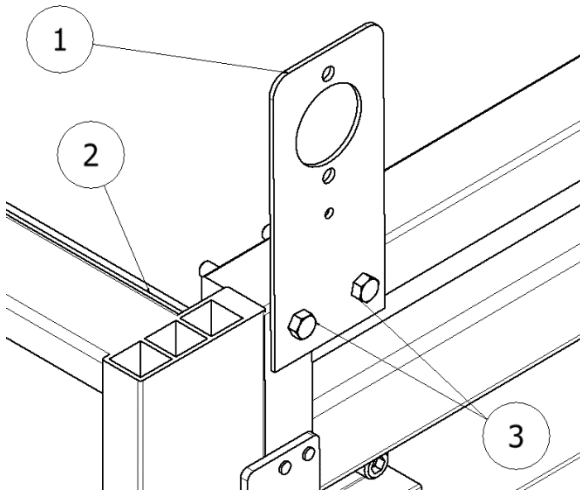

Figure 1.1
US Tarp's Cab Level Manual Crank systems come with two tarp spool mounting brackets (1). To install the mounting brackets, position them so that they are as close to the front of the trailer (2) as possible on the exterior of the trailer. Mark the position of the bottom two mounting bracket holes such that they are 1-3/4" down from the top edge of the trailer's walls. Using a 3/8" drill bit, drill holes into the trailer at the marked locations for your mounting bracket. Attach the mounting brackets to the trailer using the supplied 3/8" hex bolts and Nylock nuts (3). (Figure 1.1)